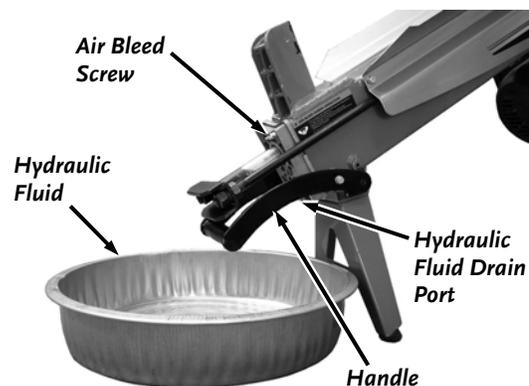

Figure 15
4. Tip the Splitter down onto the Legs as you drain the Fluid into an approved Container (1 gallon or more capacity) and continue tipping the machine until the Tank is empty (**Figure 15**).